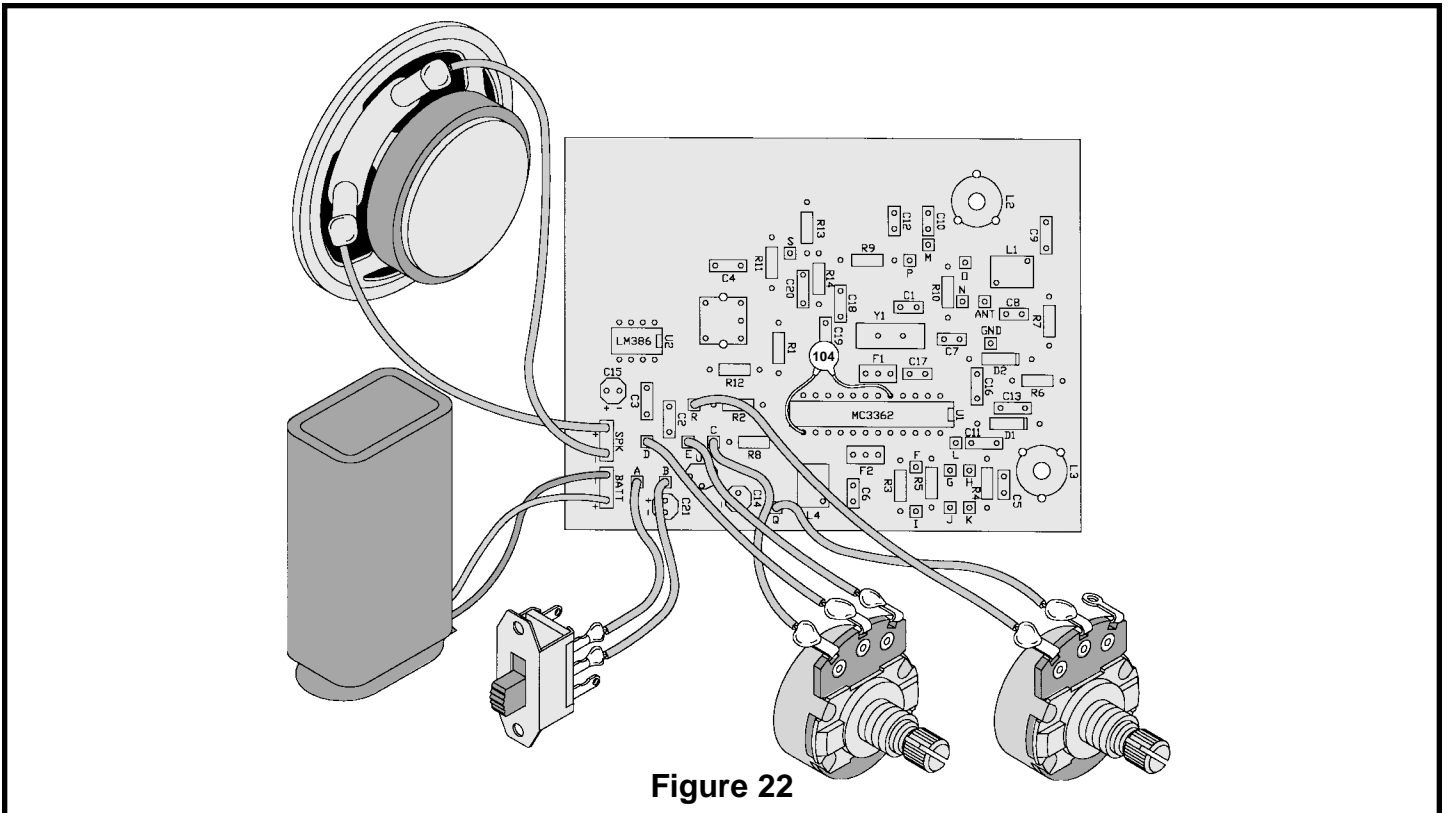

Figure 22
5. Hold a 0.1μF capacitor on pins 5 and 13 as shown in Figure 22.